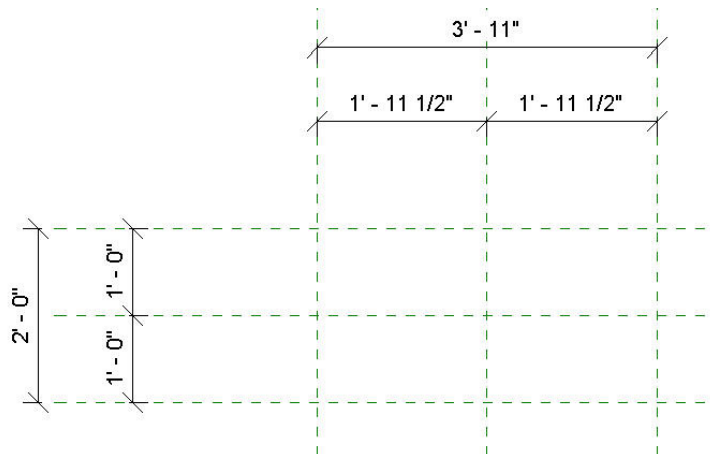

Figure 13. Creating the dimensions to control the width and length of the VAV Box body.
4. From the *Annotate* ribbon, select the **Aligned** tool to create the Dimensions shown in figure 13.